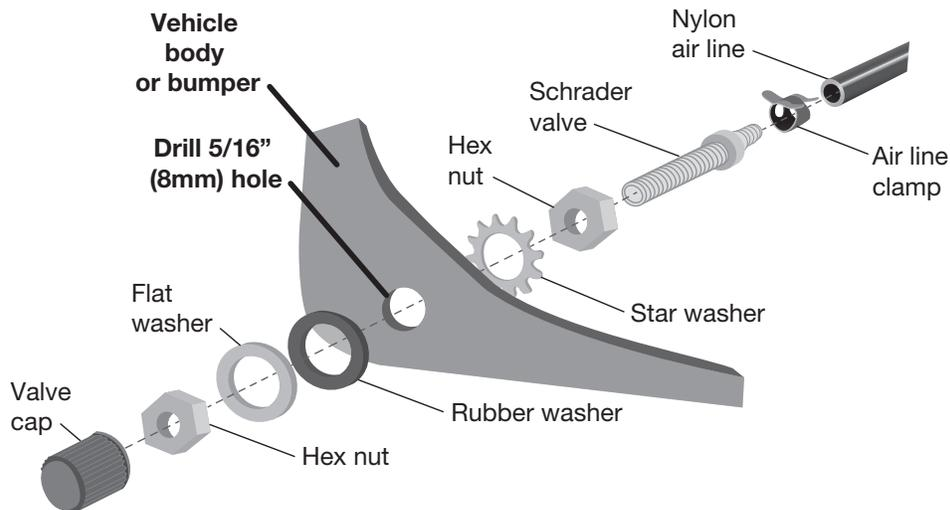

Fig. 17
6. Mount the Schrader valve (L) as shown (Fig. 17). Install the air line on the Schrader valve first. The rubber washer (H) serves as an outside weather seal.